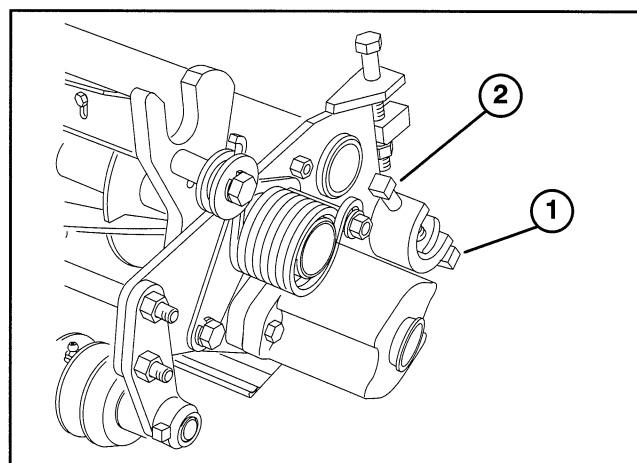

Figure 1
1. Adjustment of bedknife to reel is accomplished by first, loosening bottom screw on each side of cutting unit (Fig. 1), then tightening the top adjustment screw
2. After adjusting bedknife to reel, make sure that both the top and the bottom adjustment screws are secured on both ends of the cutting unit (Fig. 1).